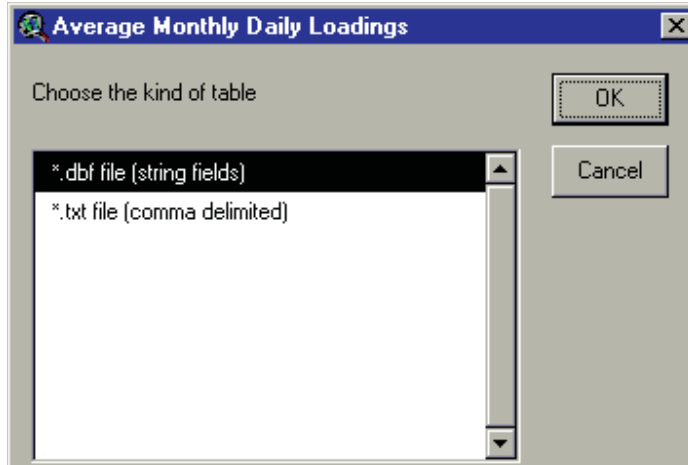

Figure 9.11
- ii. A prompt box will appear so that the user can specify the format of the file containing the monthly point source loadings (Figure 9.11). Select dBASE (.dbf) or text file (.txt) and click **OK**.